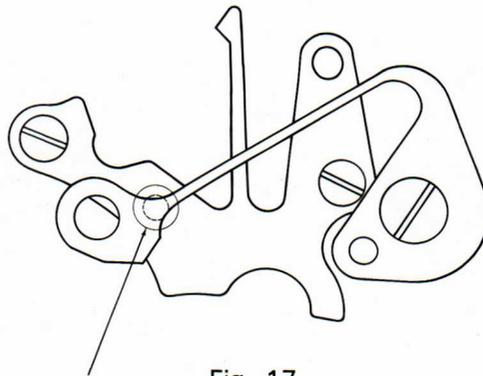

Fig. 17
3. Make sure that the tension of the date jumper is as indicated in Fig. 17.